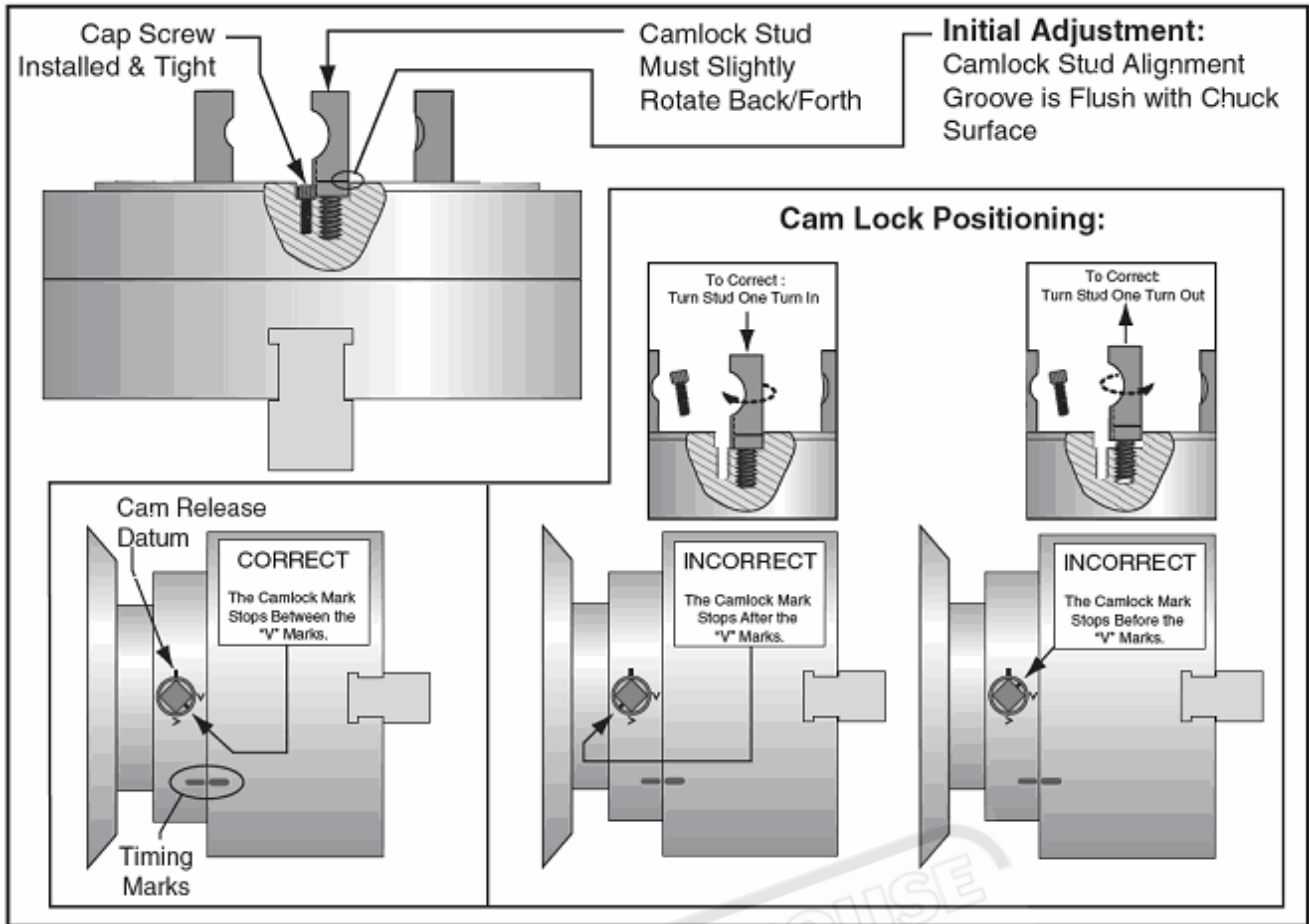

Figure 14
Note: If any of the cam lock marks (**see Figure 14**) do not fall between the "V" marks when the cam lock is tight, you must adjust the offending camlock stud as discussed in Camlock Stud Installation.
1. Oil and thread each cam stud into the chuck until the alignment groove is flush with the chuck surface as shown in **Figure 14**. 2. Install and tighten the locking cap screw for each stud, making sure that the camlock studs can slightly rotate back and forth. 3. Place the chuck onto the spindle and tighten the cam locks in an alternating manner to avoid cocking the chuck on the spindle. When tightened:
— If the cam lock mark stops outside of the "v" marks, remove the chuck and adjust the cam stud height of the offending studs one full turn (**see Figure 14**).
— If the final position of each cam mark is between the two "v" marks as shown in **Figure 14**, no stud adjustment is required.